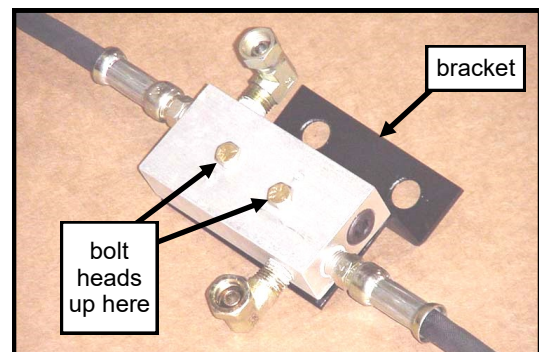

Fig. 4.2—Bracket Assembly
- 4.2** Per fig. 4.2, attach the bracket to the bottom of the block using two bolts and two lock nuts as shown.